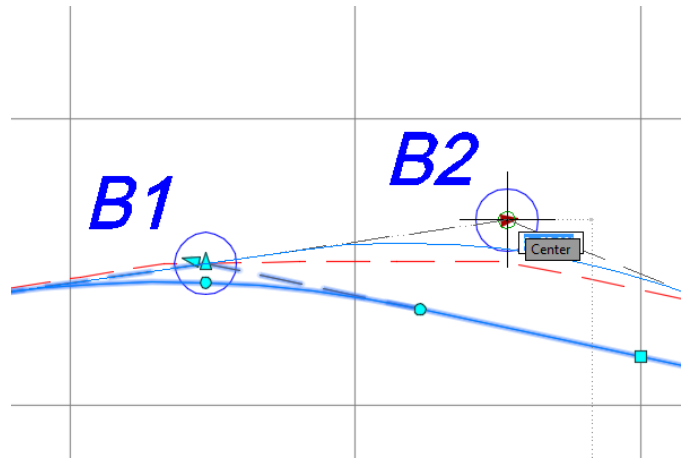

FIGURE 7.4 Moving a tangent slope grip
3. At the circle marked B1, click the triangle grip on the right and drag it to the center of the circle marked B2, as shown in Figure 7.4.